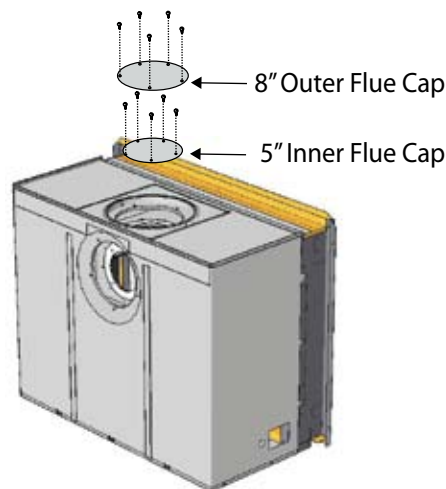

Figure 8a. Flue cap installation for Rear Vented fireplace, (L52-DF Only).
1. Install the 5" inner flue cap on the top flue outlet and secure the cap in place with five screws, as shown in figure 8a.
2. Install the 8" outer flue cap on the top flue outlet, and secure it with five screws, as shown in figure 8a.